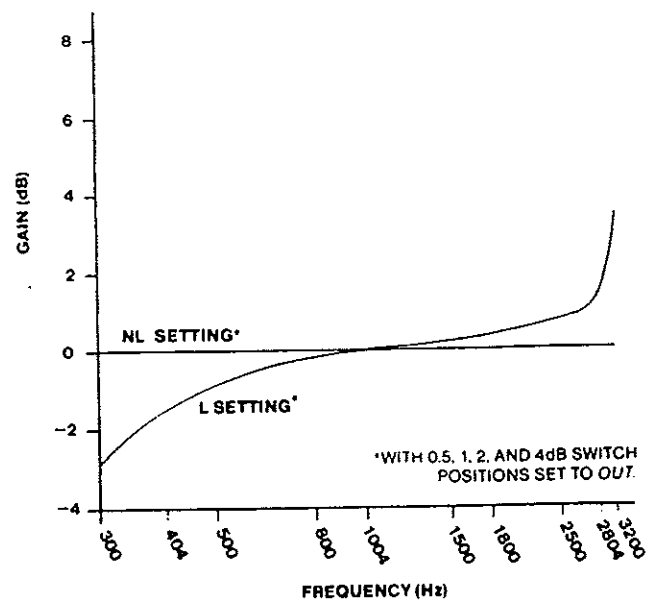

figure 6. Typical compromise bump equalization response curves
2.09 The second mode of receive-channel equalization available on the 6123/A is compromise bump-type equalization for loaded cable. The bump equalizer inserts a 3dB bump at 3200Hz (re 1004Hz) and provides 1.5dB of roll-off at 404Hz (re 1004Hz). Typical frequency response of the compromise bump equalizer is shown in graphic form in figure 6 and in tabular form in table 2.